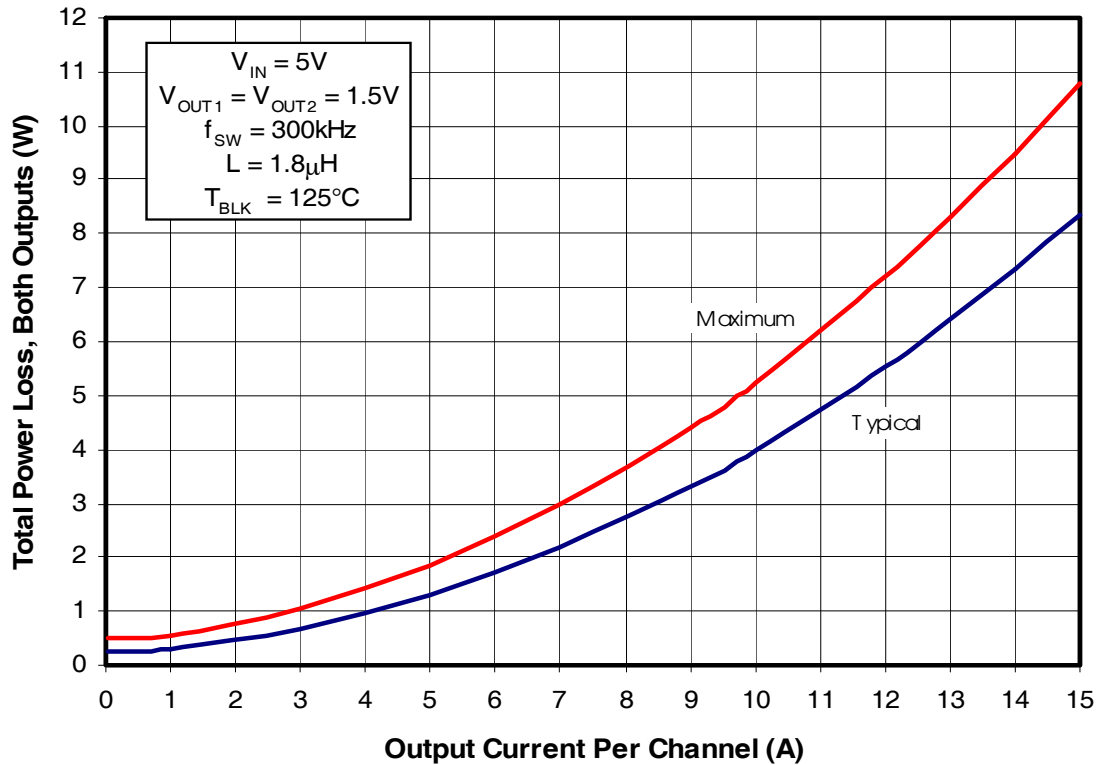
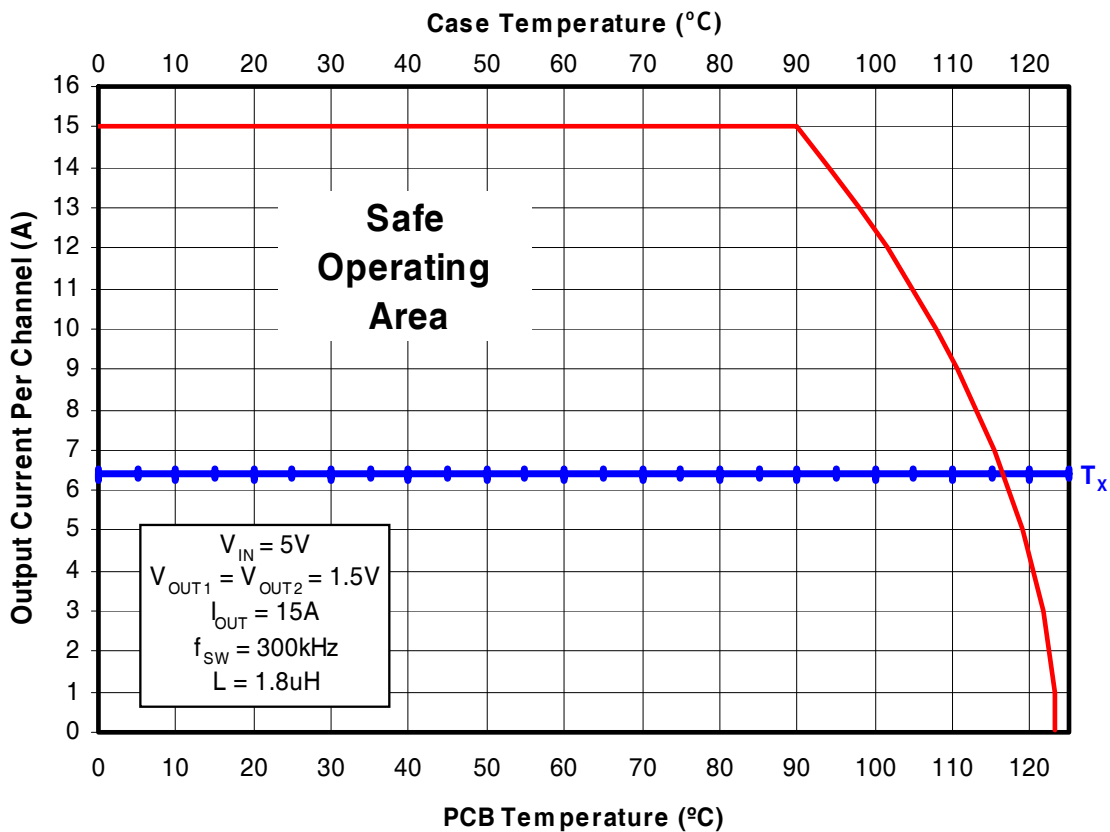
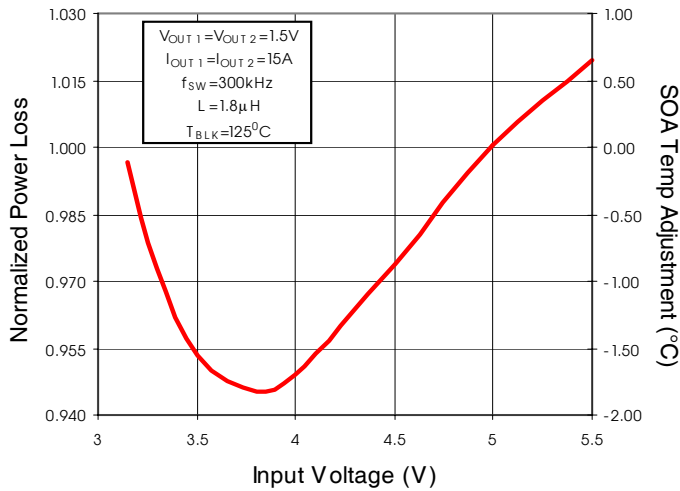

Fig. 2: Power Loss vs. Current
Fig. 3: Safe Operating Area (SOA) vs. T_{PCB} & T_{CASE}
Fig. 4: Normalized Power Loss vs. V_{IN}
To make adjustments to the power loss curves in Fig. 2, multiply the normalized value obtained from the curves in Figs. 4, 5, 6 or 7 by the value indicated on the power loss curve in Fig. 2. Remember that the power loss in Fig 2. is the power loss for 2 outputs operating with the same output voltage. If differing output voltages are used the initial power loss for each channel needs to be divided by 2. Then if multiple adjustments are required, multiply all of the normalized values together, then multiply that product by the value indicated on the power loss curve in Fig. 2. The resulting product is the final power loss based on all factors. See example no. 1.
To make adjustments to the SOA curve in Fig. 3, determine your maximum PCB Temp & Case Temp at the maximum operating current of each iP1201PbF. Then, add the correction temperature from the normalized curves in Figs. 4, 5, 6 or 7 to the T_x axis intercept (see procedure no. 2 above) in Fig. 3. When multiple adjustments are required, add all of the temperatures together, then add the sum to the T_x axis intercept in Fig. 3. See example no. 2.
- Output1 (Fig. 2) Maximum power loss = $5.3W / 2 = 2.65W$
(Fig. 4) Normalized power loss for input voltage ≈ 0.97
- Output2 (Fig. 2) Maximum power loss = $8.25W / 2 = 4.13W$
- (Fig. 4) Normalized power loss for input voltage ≈ 0.97
- Output1 (Fig. 4) Normalized SOA Temperature for input voltage $\approx -1.0^{\circ}C$
- Output2 (Fig. 4) Normalized SOA Temperature for input voltage $\approx -1.0^{\circ}C$